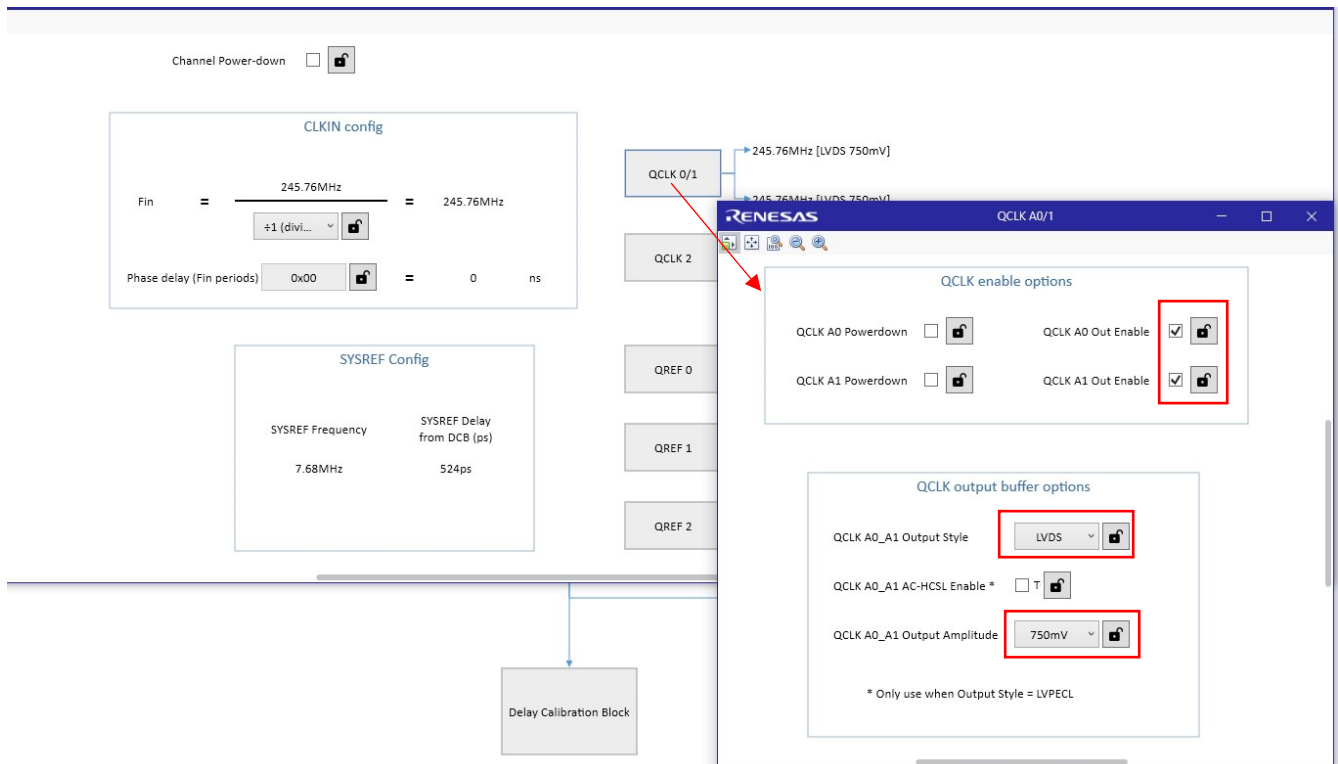

Figure 20. QCLKx Output Driver Type and Amplitude Setting
- Set the clock output QCLKx output driver type and amplitude (see Figure 20 for an example).